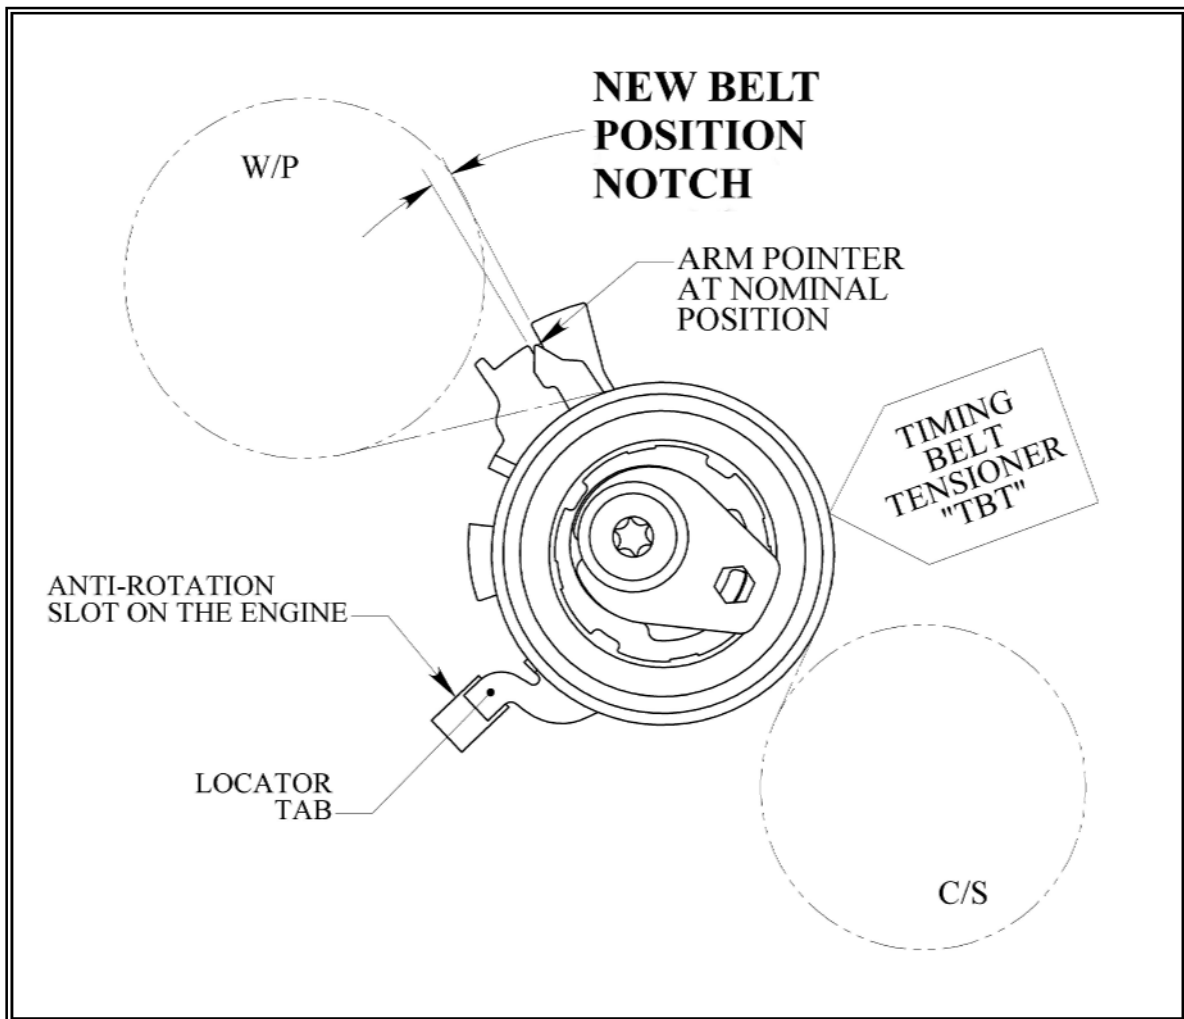

Fig. 9: TBT's pointer position after installation.
If the Arm Pointer aligns with the **New Belt Position Notch**, the installation is complete (See Figure 9).
13. Rotate the Installation Shaft with the Hex Key until the Arm Pointer aligns with the New Belt Position Notch (See Figure 9).